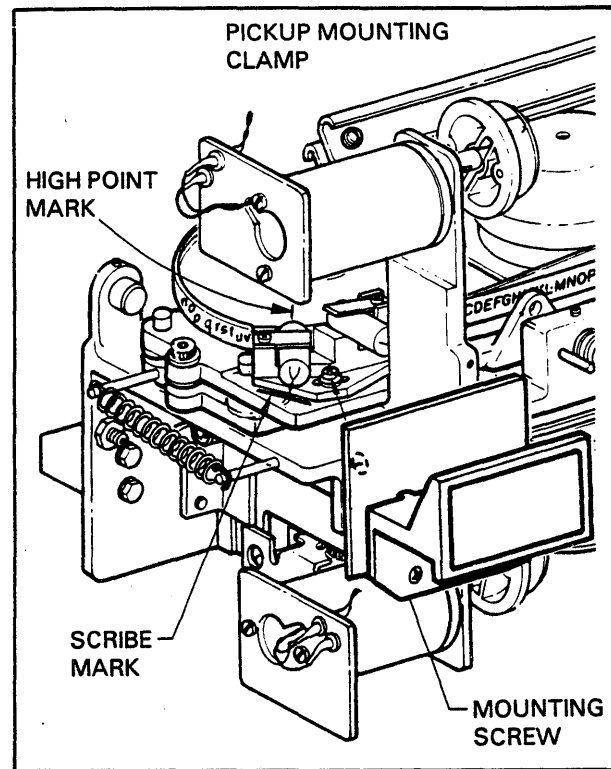

FIGURE 5-2. PICKUP MOUNTING BRACKET
3. If the mounting bracket is being replaced, scribe a reference mark on the bracket mounting surface along the left side of the bracket to mark its location. (See Figure 5-2). Locate the